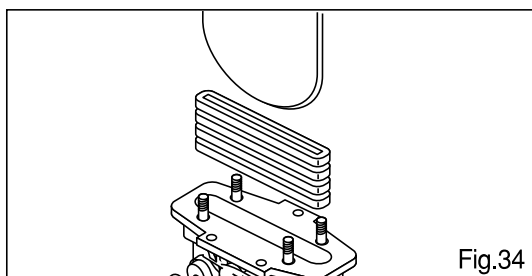

Fig.34
5. Removing plate : Remove gland packing ⑪. Remove plate ② from the body ①. (Fig.34)